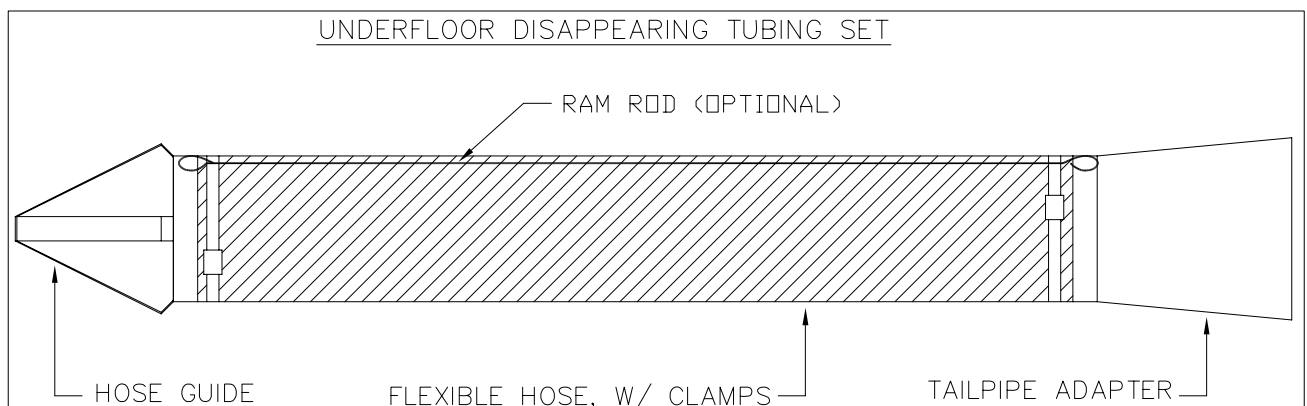

FIG 3
11. Begin assembling the flexible tubing and accessories as show in FIG 3.